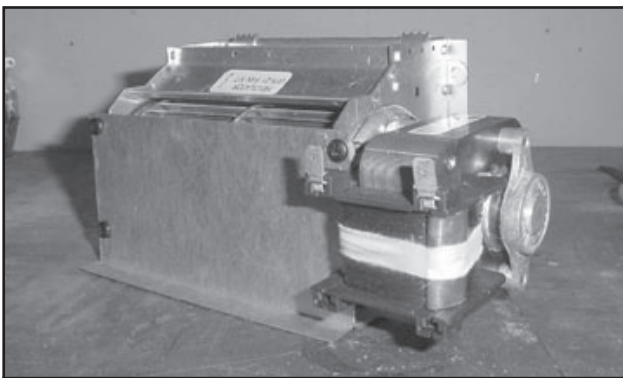

Figure 3 Fan Shield
- If the fan is being installed in a B-vent appliance, the fan shield supplied with the appliance will also need to be attached. See Figure 3.